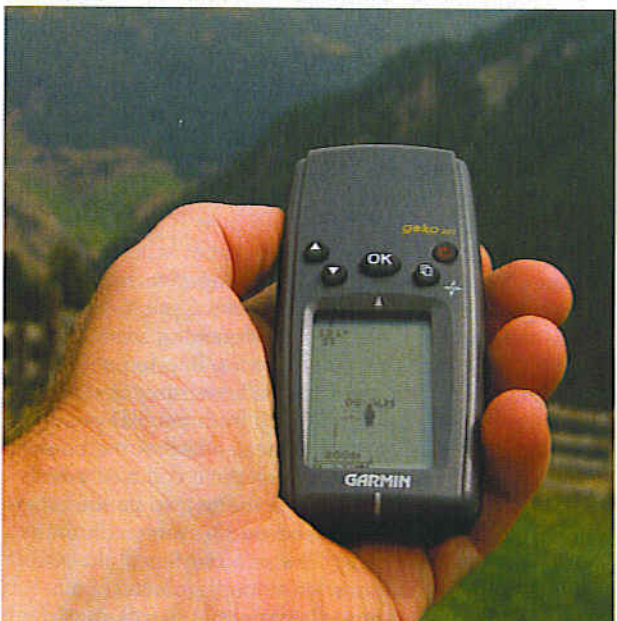

Figure 2. A personal navigation aid for serious ramblers. (photo: Garmin)
The market for GPS (Global Positioning System) navigation systems has grown at a staggering rate so that now there are dedicated systems available for practically every type of travel and/or vehicle. As a consequence of the high level of system integration, mass production of specialist chips and lower production costs of both in-car (Figure 1) and portable (Figure 2) navigation equipment has fallen dramatically over recent years. Vehicular navigation installations use additional information from turn-rate sensors and distance trip data to help keep the system on course and display the correct on-screen position between GPS 'fixes'. The process of position plotting using distance travelled and compass heading is known as 'dead reckoning' (DR). DR information is important because it can be used in conjunction with digital map information stored on a CD or flash memory to update the displayed vehicle position when the GPS signal is obscured in tunnels or by tree canopy cover in a forest or buildings in town.